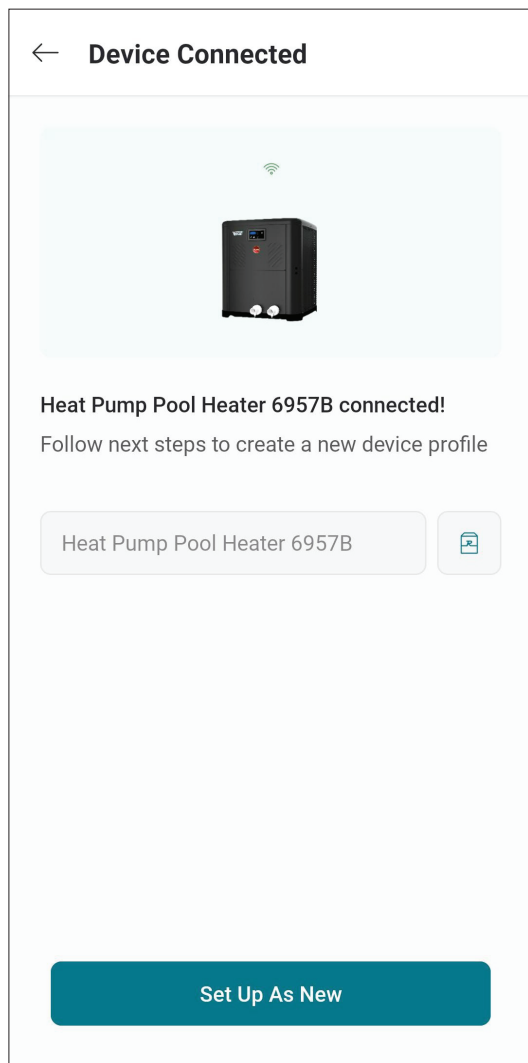

Figure 84. Name Your Unit
1. Your device is now connected to Wi-Fi. You can change the name of your device here. See Figure 84.